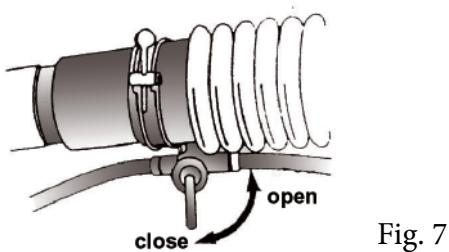

Fig. 7
- a) During spraying operation, while adding chemical, the switch must be shut, see Fig. 7